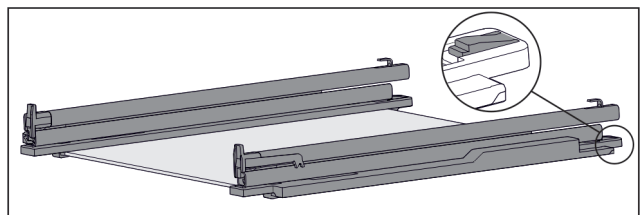

Fig. 149 Glass shelf with rails and retaining parts
- ▶ Press down retaining part at the rear (see Fig. 149) and simultaneously push rail back.